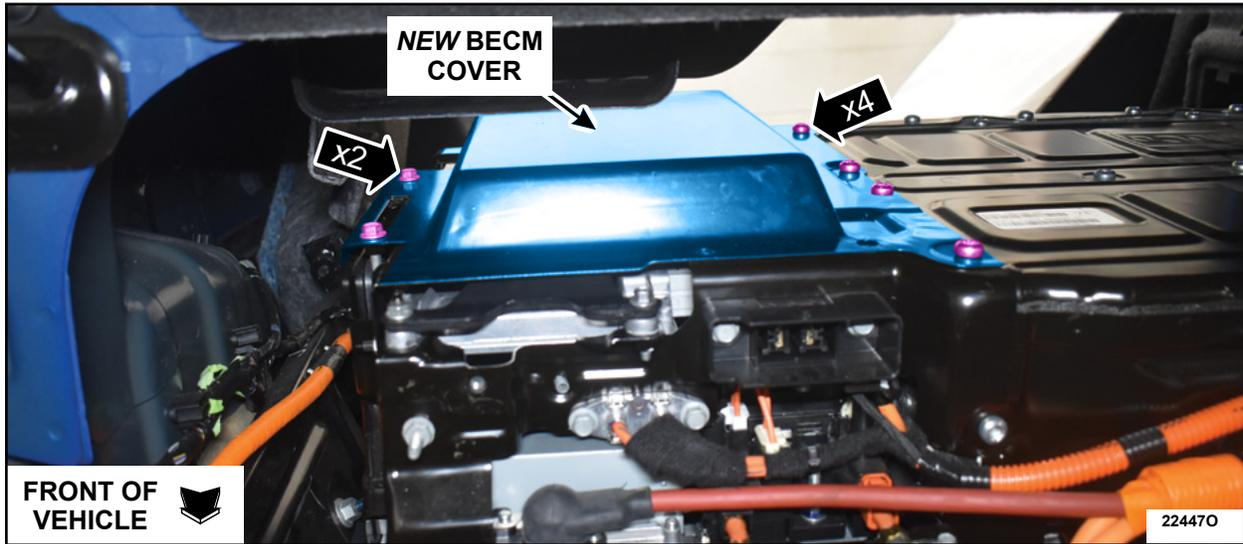

FIGURE 15
17. Install the new BECM cover (Item B) and the retainers. See Figure 15.